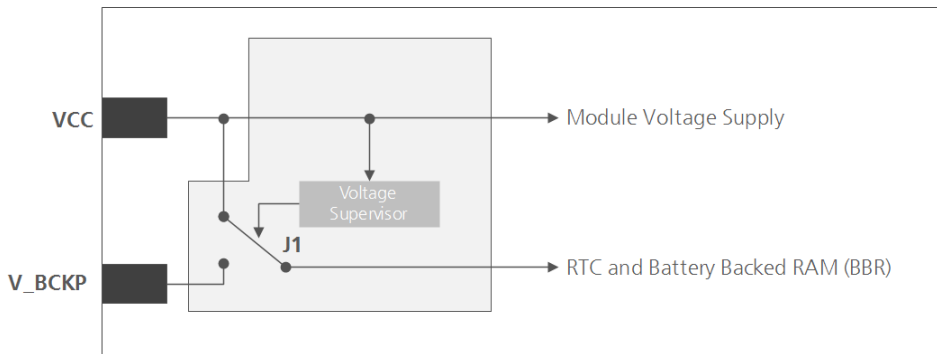

Figure 1: Backup battery and voltage (for exact pin orientation, see the NEO-M8U Data sheet [1])
-  As long as power is supplied to the NEO-M8U module through the **VCC** pin, the backup battery is disconnected from the RTC and the BBR to avoid unnecessary battery drain (see Figure 1). In this case, **VCC** supplies power to the RTC and BBR.